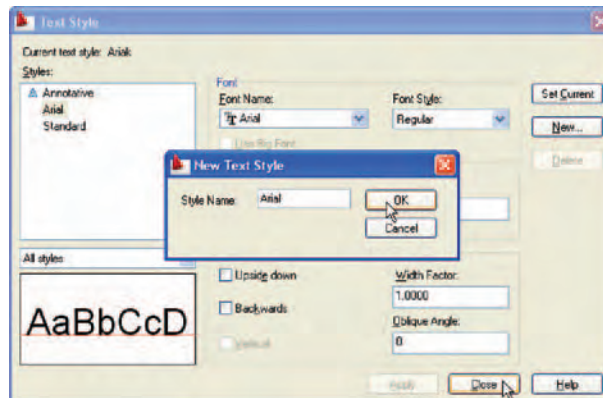

Fig. 4.9 The New Text Style sub-dialog
3. *Left-click* the **New** button and *enter Arial* in the **New** text style sub-dialog which appears (Fig. 4.9) and *click* the **OK** button.